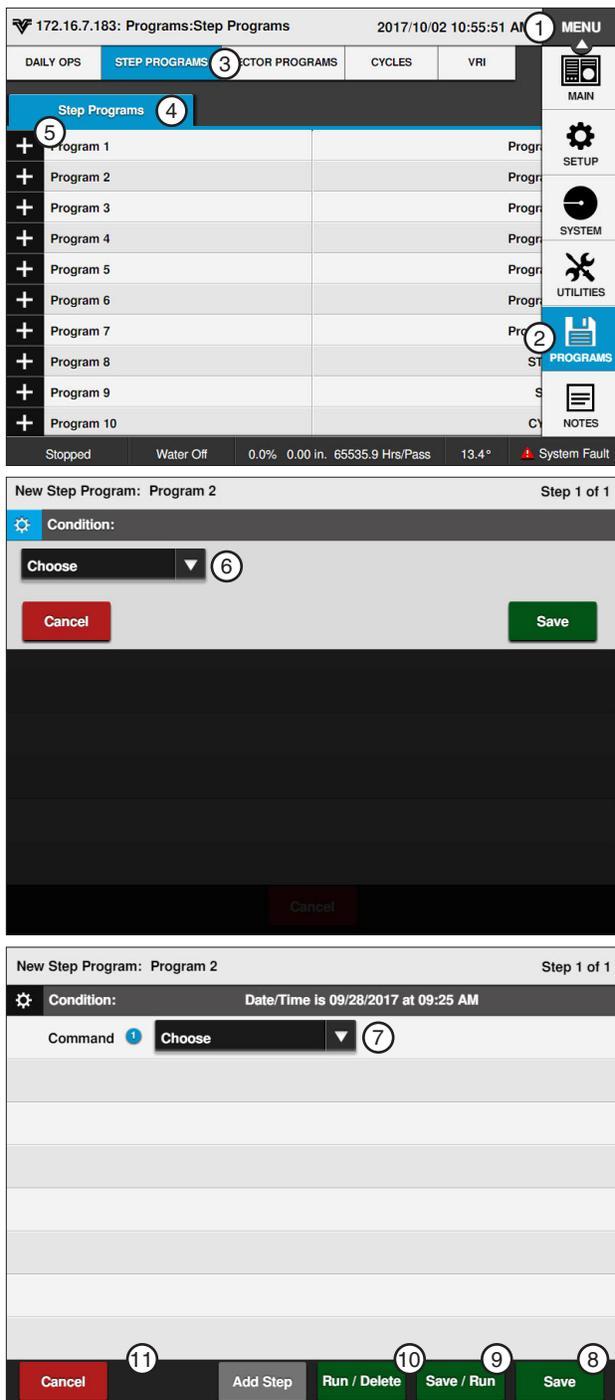

Figure 100-1 1. Menu
2. Push the **New Program** button corresponding to the preferred program number as shown in Figure 100-1.
3. Select the **Choose Condition** drop-down menu and choose a condition for this step. Refer to Figure 100-1.
4. Select the **Choose Command** drop-down menu and choose a command. Refer to Figure 100-1.